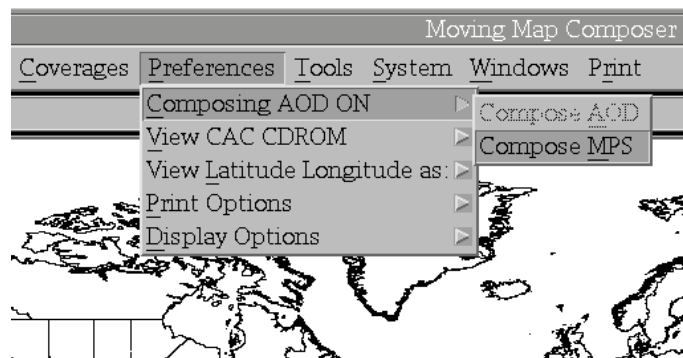

Fig. 12 – Composing preferences
- b. If the Build Type Mode (either *AOD* or *MPS*, just below menu bar on far right) is not set to *AOD*, change it by clicking on *Preferences*, then *Composing MPS ON*, then *Compose AOD* (Fig. 12) and then click *Yes*.